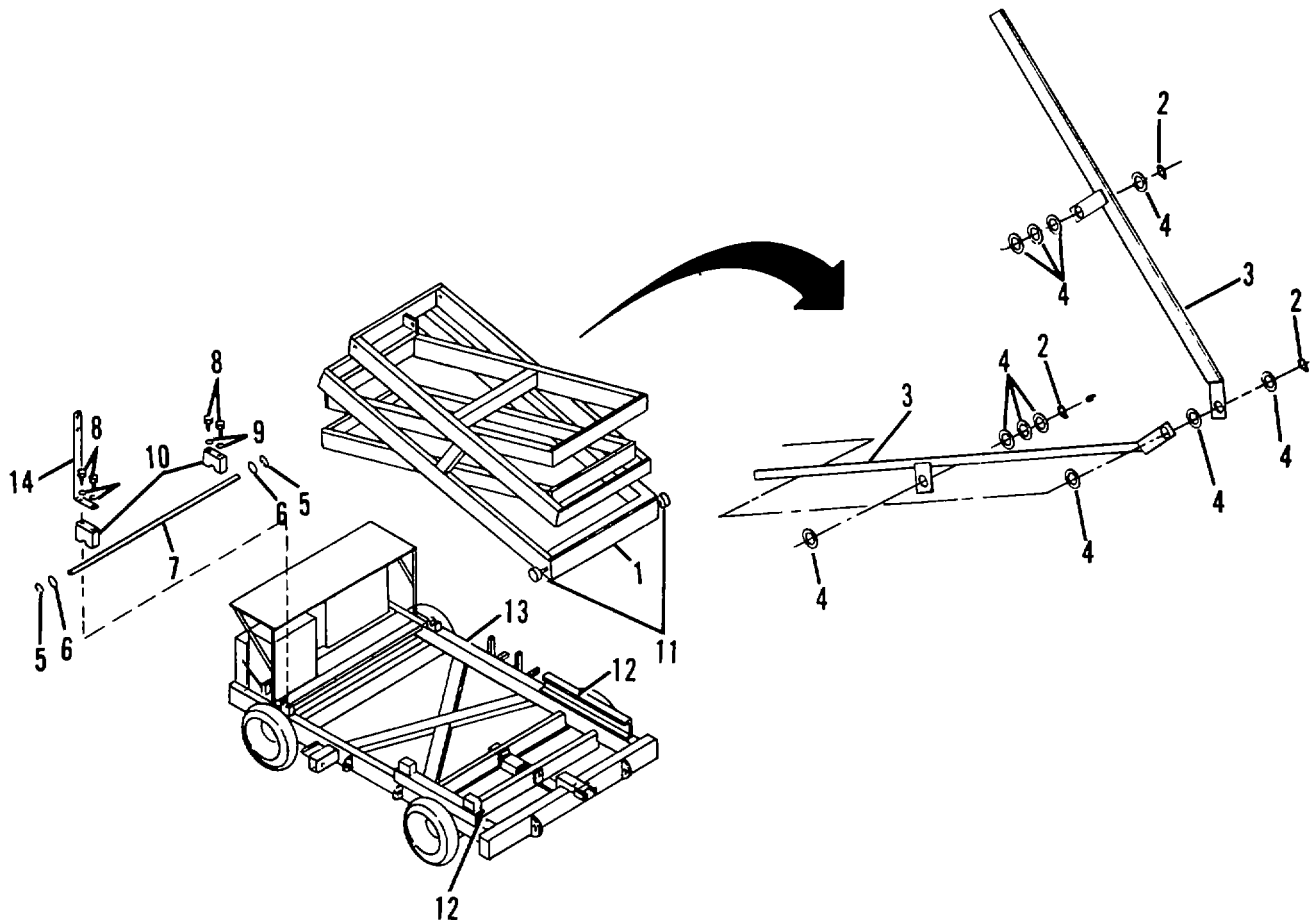

Figure 4-38. Scissors Mounting.
(a) Attach hoist and slings to scissors assembly (1, Figure 4-38) at the middle of the scissors.
- (f) Remove retaining rings (5, Figure 4-38), spacers (6) and rod (7).
- (g) Remove capscrews (8) and washers (9) from scissors mounting blocks.
- (h) Remove mounting block caps (10).
- (i) Lift scissors (1) to take the weight off the front camfollowers (11).
- (b) Carefully guide camfollowers (11, Figure 4-38) into camfollower tracks (12). Gradually lower scissors assembly so that the rear scissors shaft rests in the scissors hinge blocks.
- (c) Place scissors mounting block caps (10) in position.
- (j) Install inside spacers (4, Figure 4-38) on scissors shafts. Place conduit (3) in position on shafts.
- (k) Install outside spacers (4). Secure with retaining rings (2).